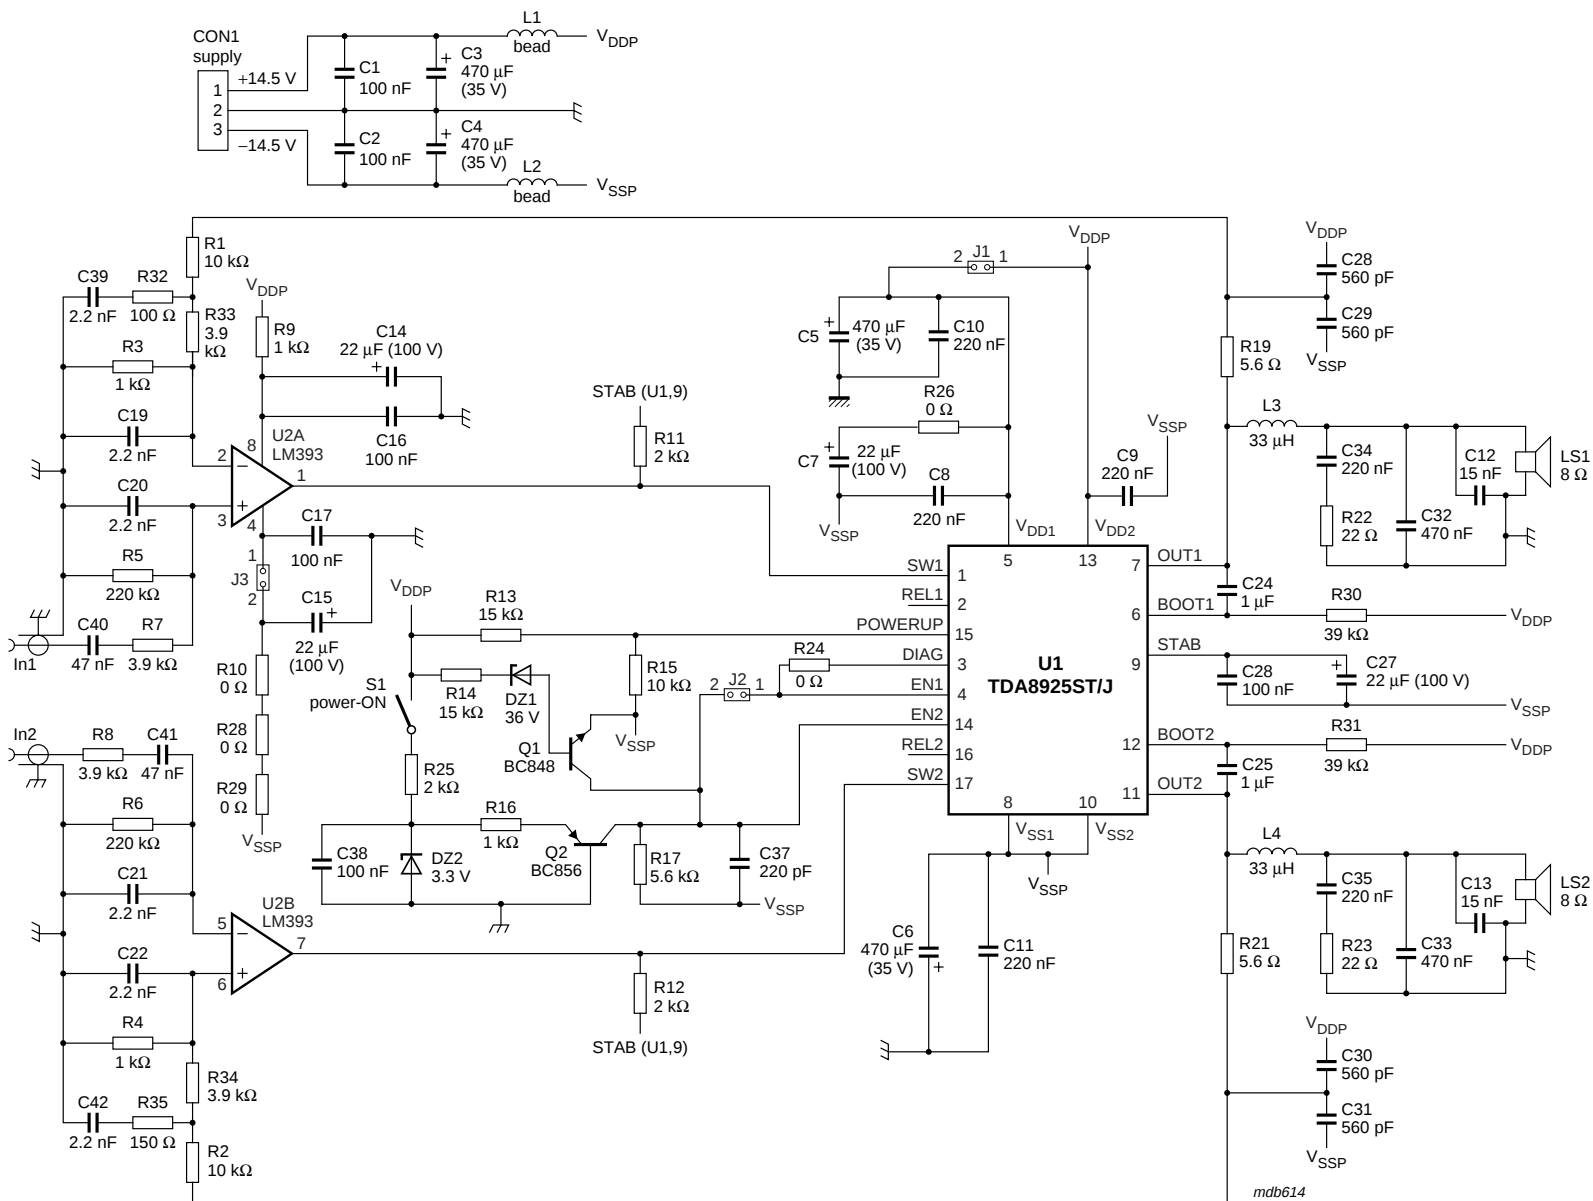
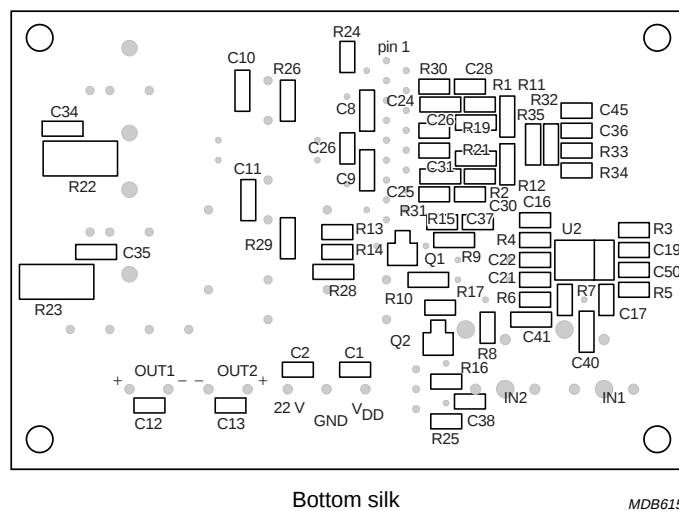

Fig.5 SE self oscillating class-D system application diagram for TDA8925.
Fig.6 Printed-circuit board (bottom silk) layout for TDA8925ST.
- $V_P = \pm 15\text{ V}$; $R_L = 8\ \Omega$; $f_i = 1\text{ kHz}$; $f_{\text{osc}} = 310\text{ kHz}$; $R_s = 0.1\ \Omega$ (series resistance of filter coil); $T_{\text{amb}} = 25\text{ }^\circ\text{C}$; measured in reference design (SE application) shown in Fig.5; unless otherwise specified.
- Total Harmonic Distortion (THD) is measured in a bandwidth of 22 Hz to 20 kHz (AES 17 brickwall filter). When distortion is measured using a low-order low-pass filter a significantly higher value will be found, due to the switching frequency outside the audio band. Measured using the typical application circuit, given in Fig.5.
For SE application the application diagram as shown in Fig.5 can be used.
The reference design for a self oscillating class-D system for the TDA8925 is shown in Fig.5. The Printed-Circuit Board (PCB) layout is shown in Figs 6, 7 and 8. The bill of materials is given in Section 15.5.1.